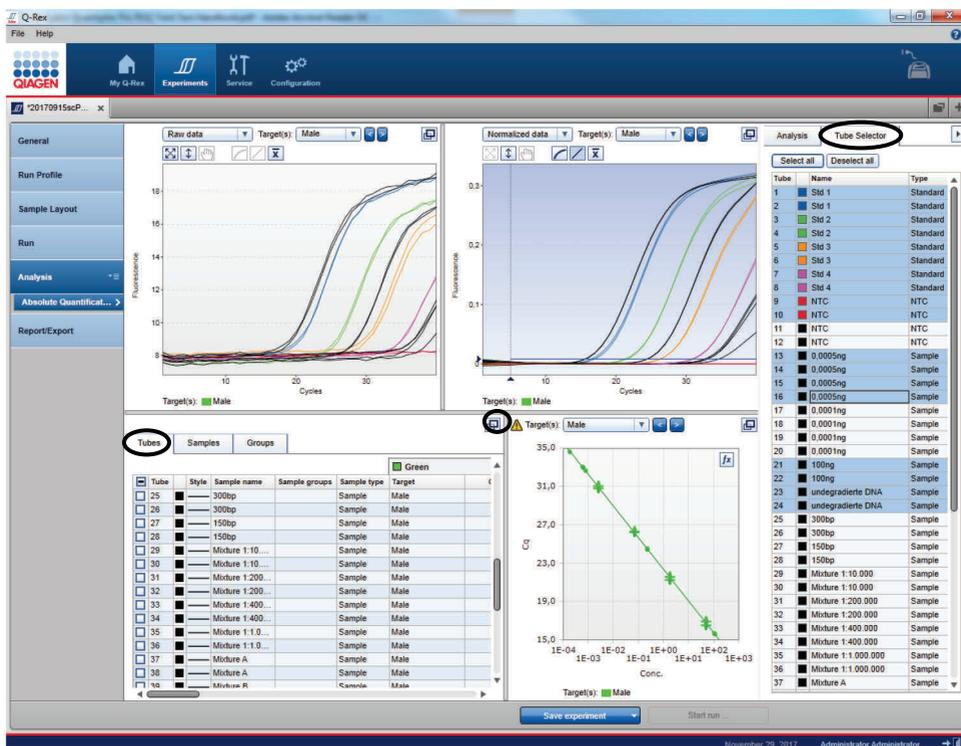

Figure 33. Tube selector in Q-Rex.
16. Individual tubes can be selected or deselected for further analysis by using the “Tube selector” (Figure 33). View the concentration of the unknown samples in the tube table section on the left panel (Figure 33). All windows can be enlarged by clicking on the enlarge button (Figure 33).